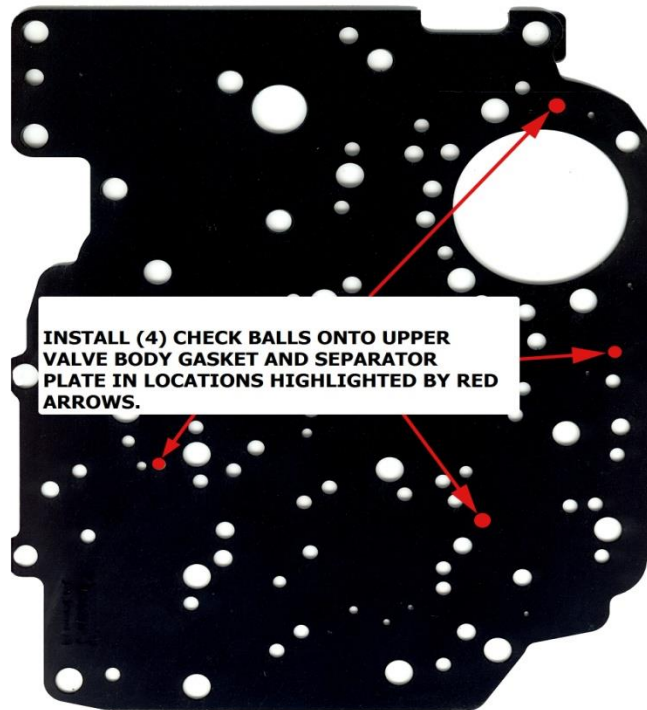

Figure 1
5. **NOTICE** Install (4) new check balls onto new upper valve body gasket and new separator plate (*see figure 1*). Use some TransJel® assembly lubricant or petroleum jelly to hold check balls to gasket and separator plate if necessary. Install check balls, upper gasket, and separator plate onto transmission. Use the support plate to hold the gasket and separator plate in place. Lightly hand-tighten the support plate bolts. DO NOT fully tighten the support plate bolts until valve body is installed. DO NOT install any other check balls into the transmission other than the (4) new check balls included in the kit.
(Figure 1)